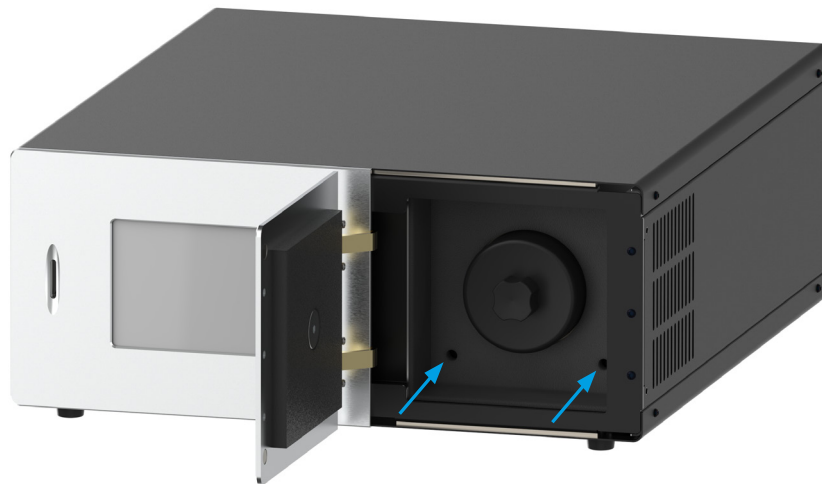

Figure 2 *Transit Bolt Locations*
2. Insert 5mm Allen key through each access hole in the insulation in turn (see Figure 2).